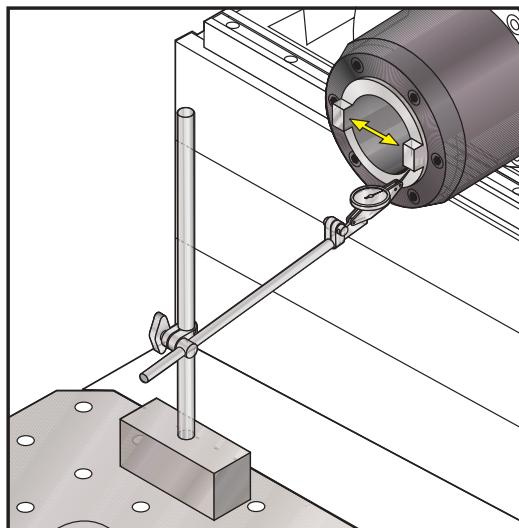

Figure 3.4-3 Parallel to X axis
2. Adjust Parameter 257, "SPINDL ORIENT OFSET", until the spindle dogs are parallel to the Y-axis on HS-1 and X axis on HS-2. Ensure that the dogs are within 0.010" using a dial indicator. See Figure 3.4-3.